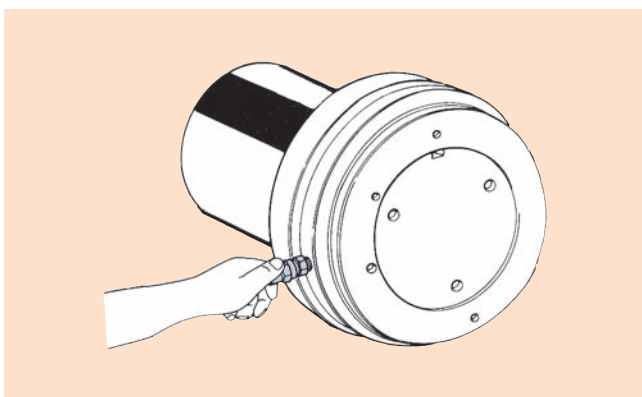

Fig. 31
(3) Connect the hose from the hydraulic pump to the hydraulic nut using a hydraulic coupling (see Fig. 31).